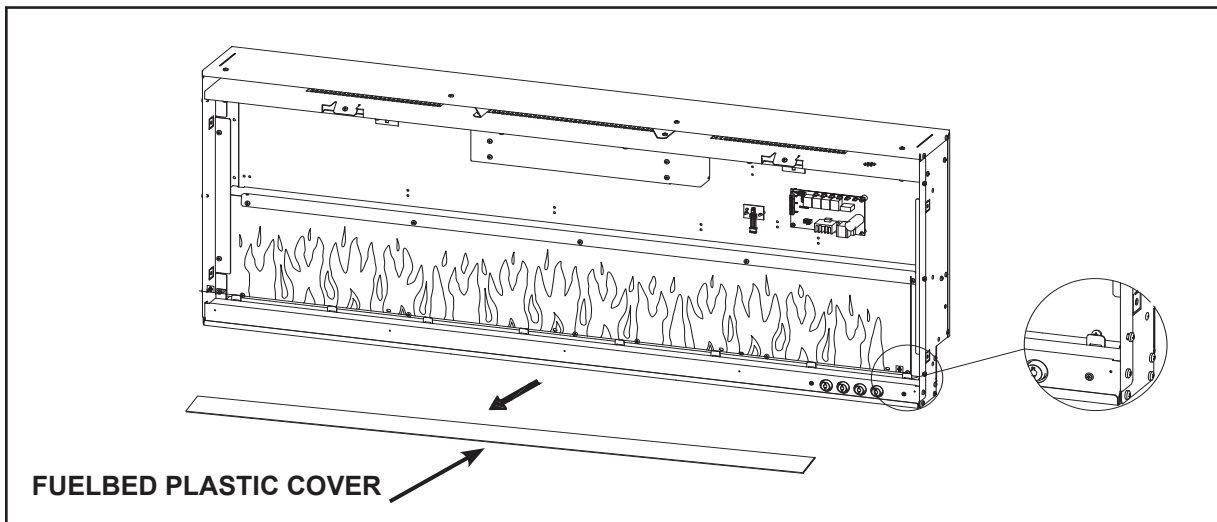

Figure 6 Remove Plastic Cover
5. Using a flathead screwdriver, pry open the tabs as shown in Figure 6. Pry the tabs upward at a 30 degree angle. During this step, take care not to scratch or damage the glass panel behind the tabs.
6. Remove the fuelbed plastic cover that covers the fuelbed LED light strips. See Figure 6.